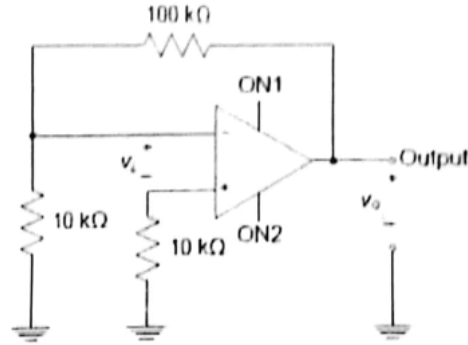

Figure 2.6
1. Construct the circuit in Figure 2.6 and measure the output voltage record the value in Table 2.1